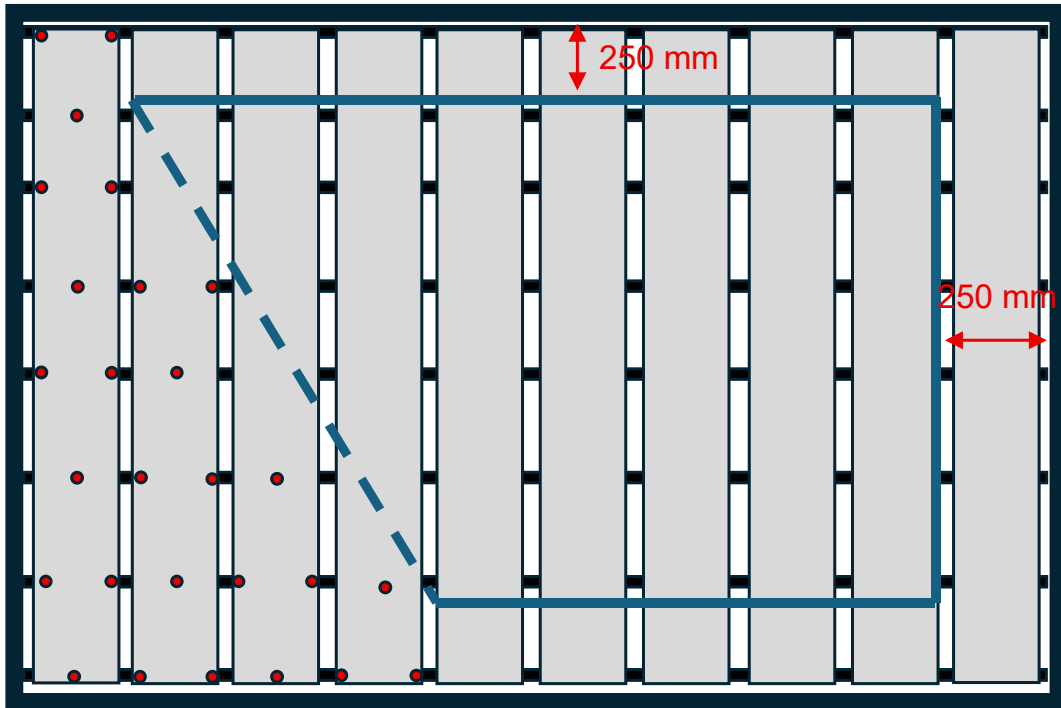

Figure 1 – Test Layout
- Baseboards installed perpendicular to the rails and screwed down using Baseboard screws as detailed in Figure 1 below, with a 6-8 mm gap between each base board.